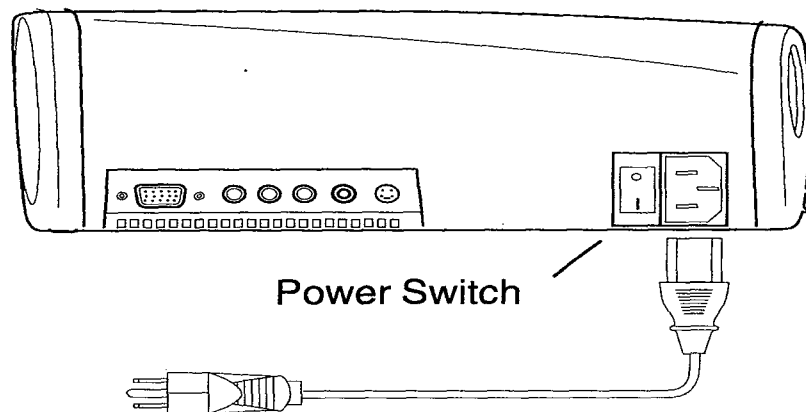

Figure 3: Connecting to Power
1. Install the power cable (see Figure 3 on next page) after placing the projector approximately twice the distance from the screen as the screen is wide.
1. Install the power cable (see Figure 3) after placing the projector proximately twice the distance from the screen as the screen is wide.